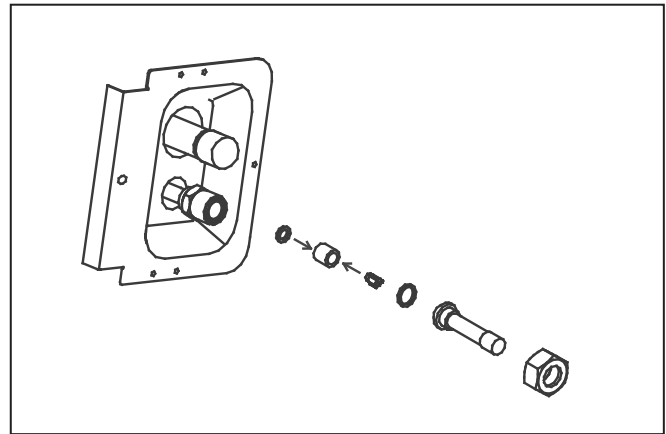

Figure 2
2. Remove the existing piston, the piston housing, and the two (2) O-rings shown in Figure 2, from the mechanical fitting in the liquid line.